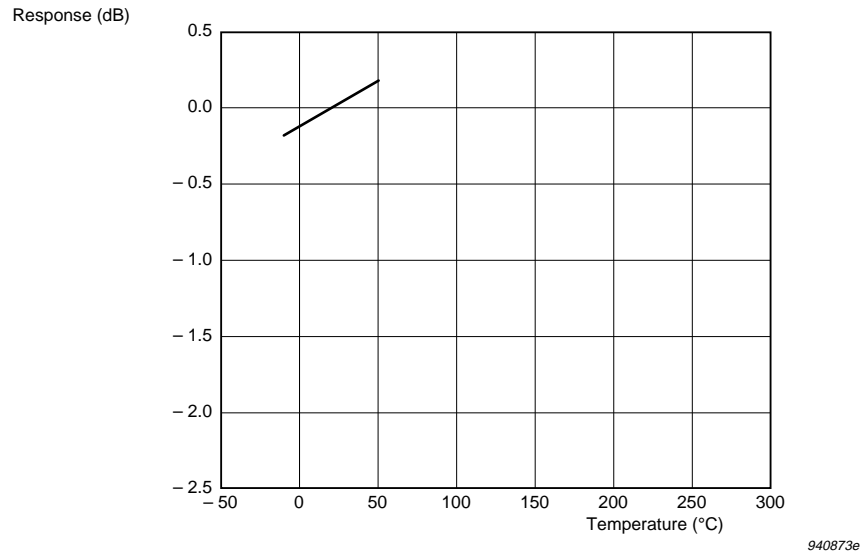
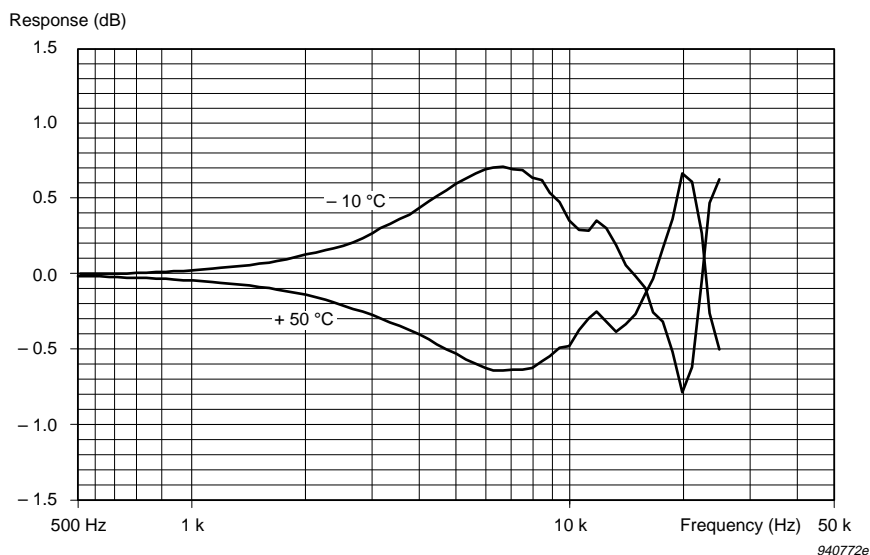

Fig. 2.21 Typical variation in sensitivity (at 250 Hz) as a function of temperature, relative to the sensitivity at 20°C
Fig.2.22 Typical variation in actuator response (normalized at 250 Hz) as a function of temperature, relative to the response at 20°C (see Fig.2.4)
The reversible changes are shown in Fig.2.21 as a change in sensitivity and in Fig.2.22 and Fig.2.23 as changes in the frequency response normalized at 250 Hz.
- the measured change in the actuator response due to temperature (see Fig.2.22).